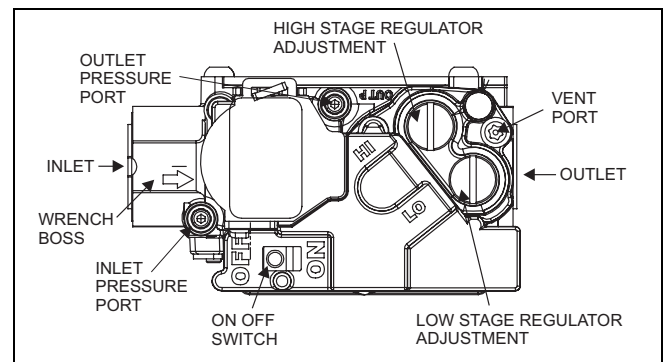

FIGURE 1: Gas Valve
8. Adjust the manifold pressure on low fire by turning the 3/32" set screw below the low adjustment seal screw either clockwise (to increase) or counterclockwise (to decrease) as required until the manometer reads 4.0" w.c. Using this same procedure, adjust the manifold pressure on high fire to 10.0" w.c. Refer to Figure 1 for location of low and high fire set screws. These settings will result in a propane gas input which is the same as the natural gas input found on the unit rating plate. When adjustments are complete, replace adjustment seal screws.